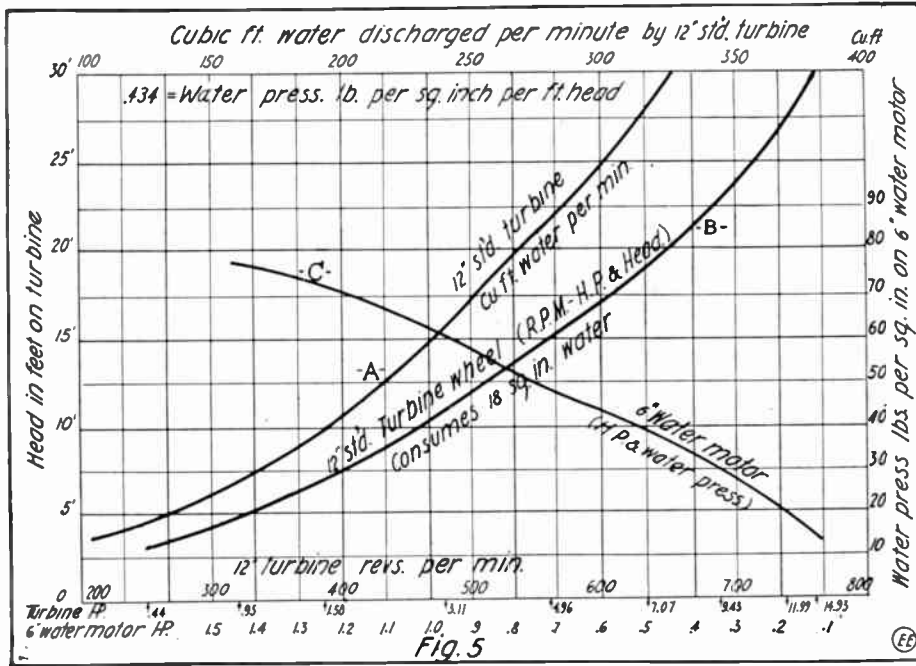

Fig. 5. Graphic Curves Giving the Cubic Feet of Water, Speed, Etc., of a 12" Standard Hydraulic Multiple-Vane Turbine and a Common 6" Water Motor.
For our better guidance it is perhaps best that we know in a general way about how much water is required to supply a certain amount of horse-power. Fig. 5 will help us to gain this information. Note
Now referring to curve Fig. 5—C, the characteristics of a 6 inch water motor (Hercules and other types), such as used for grinding, driving small dynamos, etc., are perceived. These indicate that with a fairly high pressure the 6" water motor, although of slight initial cost, is capable of producing considerable power. At a pressure of about 78 lbs. (at left of chart) the H.P. abscissa lines intersect curve C, at a value of 1.45 H.P. The cu. ft. of water consumed per minute (measure for one-fourth minute and multiply quantity by four) by any turbine or motor, is readily ascertained by discharging the efflux into a tank of known dimensions. Sometimes it is weighed and the cu. ft. then calculated, allowing 62½ lbs. per cubic foot.
5. Fine Scribe.—This is made of a brass rod and a needle. Drill the brass rod and taper the end with a file. Insert the needle and solder. (Fig. 5.)